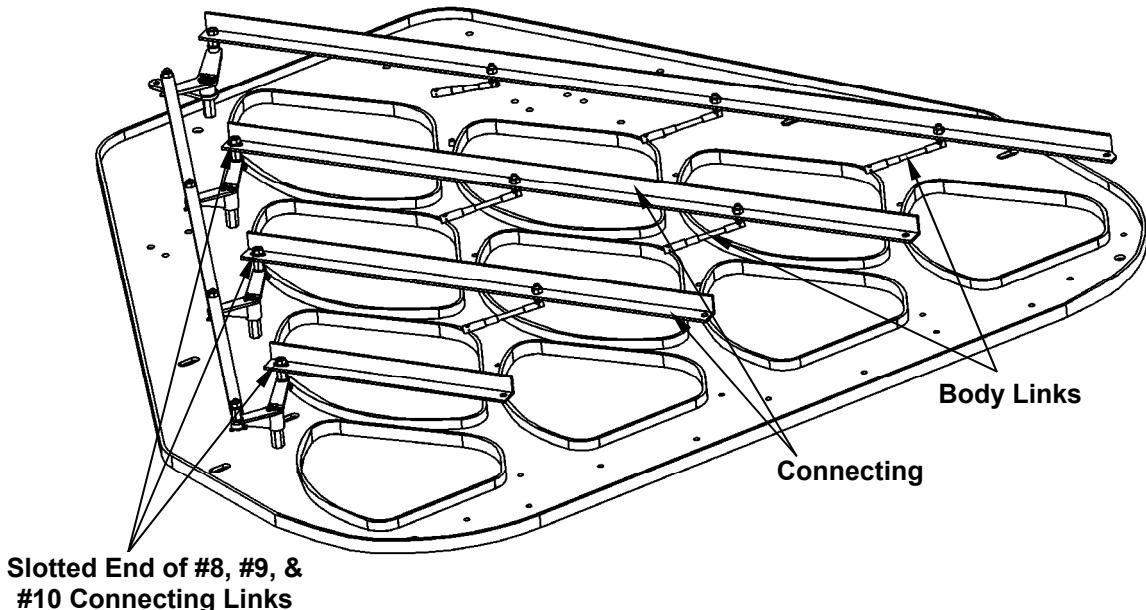

Figure 4.2-19
2. Disconnect the 6 body links that connect the respot cells to the #7, #8 & #9 connecting links (see Figure 4.2-19).